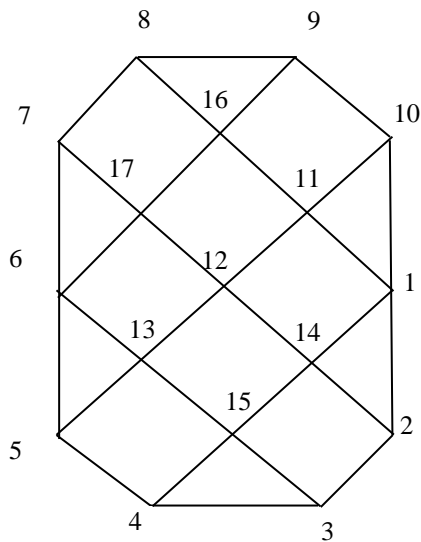

Figure 7
- (4). (a). Two plates shown in **Figures 7** and **8**, shall be analysed as a plane strain problem. Both plates are divided into several elements. Each node has been labelled accordingly. Calculate the bandwidth, $B = (R+1)$ NDOF for the plate assuming two degrees of freedom at each node.